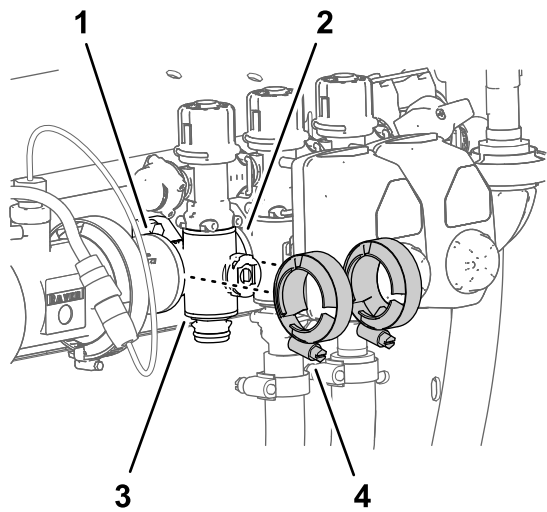

Figure 107
3. Remove the 2 flange clamps that secure the section-manifold valve to the flanges of the adjacent components (Figure 107).